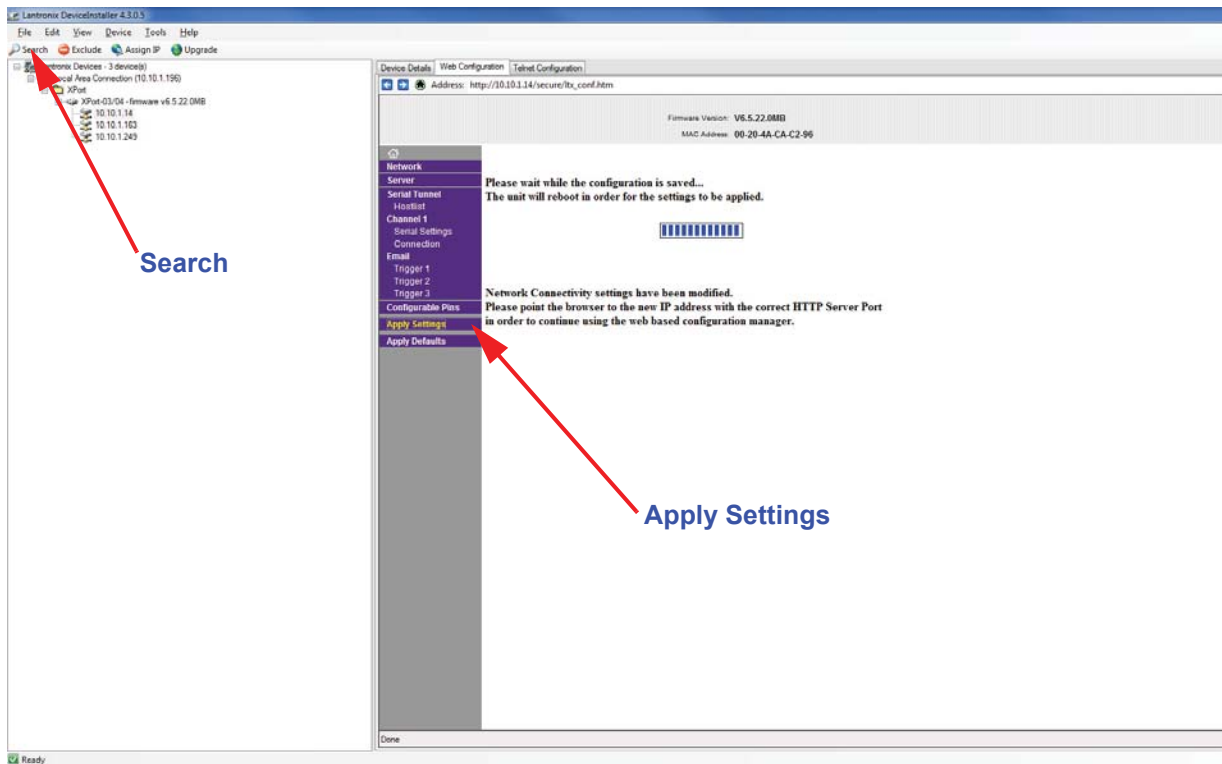

Figure 4-11 Apply Settings
7. Select Apply Settings link to save the setting to the NC30+ as shown in Figure 4-11.